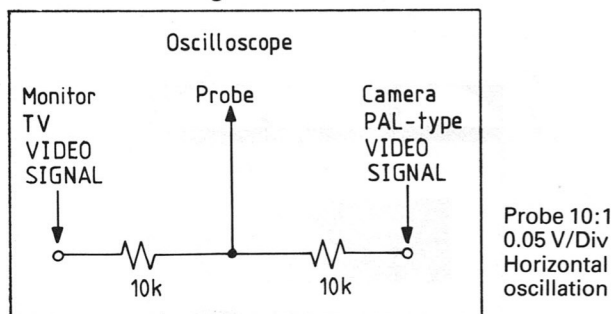

Fig 7.10
- (1) Apply the VIDEO output of the TV monitor and PAL-type VIDEO output of the camera through two resistors to the oscilloscope as shown in Figure 7.10